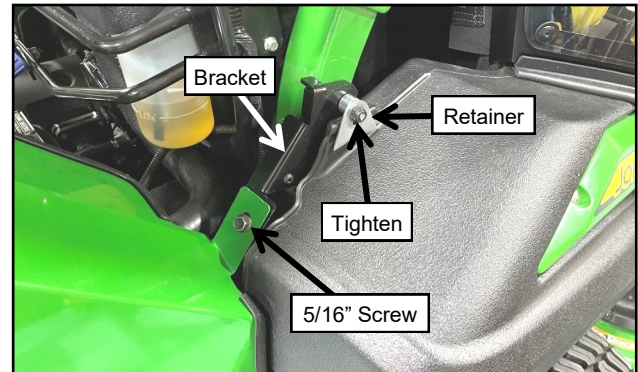

Fig. 2.34 (Tighten Hardware to Clamp Fender)
2.34 Per Figure 2.34, tighten hardware clamping the right fender. Making sure retainer sits in groove found in fender. Note: 5/16-18 screw may need to be adjusted so compressor shroud has proper fit with bracket.